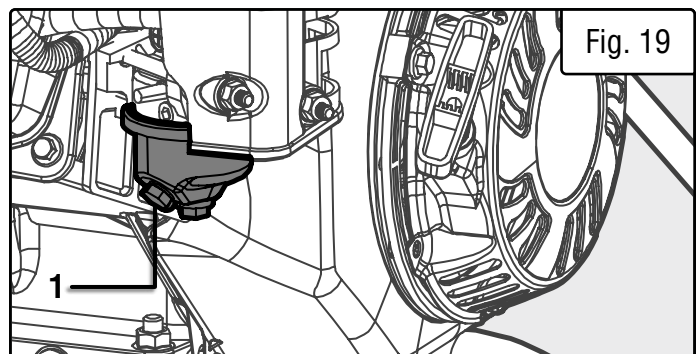

Fig. 19
2. Prepare an approved gasoline-storage container. Position it underneath the carburetor drain screw (Fig. 19 - 1).